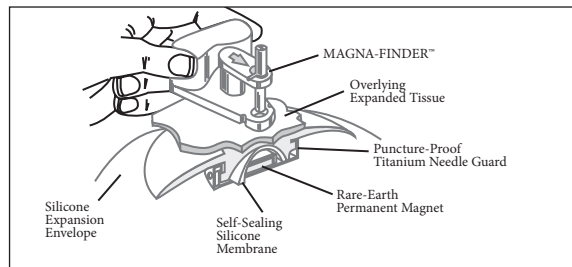

FIGURE 2
- All injection sites are self-sealing and contain a titanium needle guard to prevent inadvertent puncture through the base of the injection site (see Figure 2).